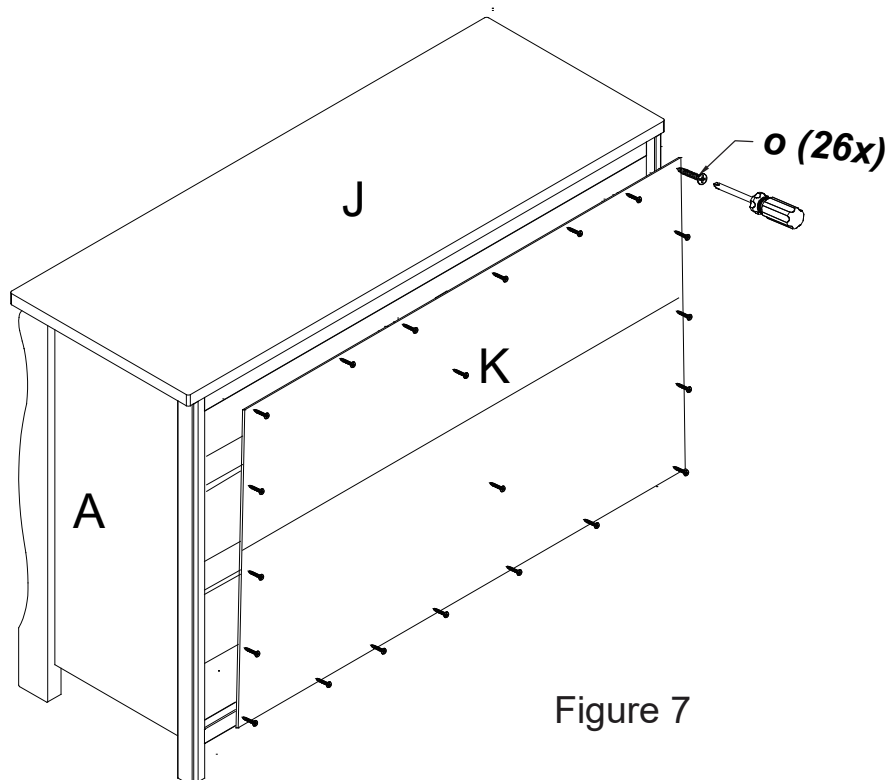

Figure 7
- ⑧ Use 26 pcs Wood Screws (o) to attach the Back Panel (K) to the dresser As Figure 7..